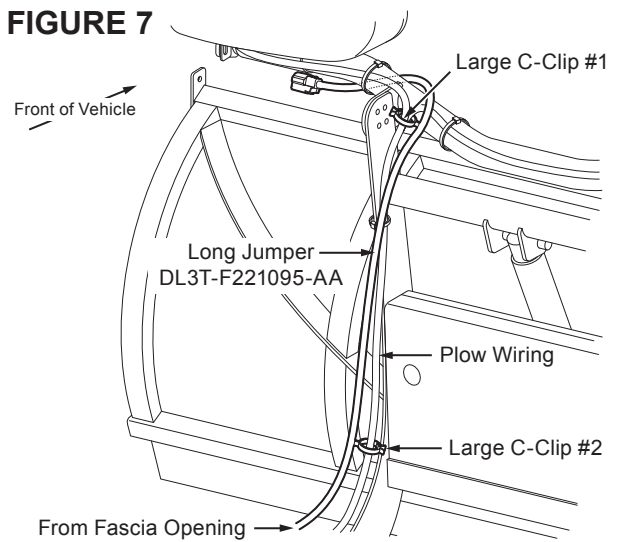

FIGURE 8
8. Tie strap the new OAT Sensor (AU5T-12A647-AC) to the plow left headlamp wire harness using tie straps (8V5T-14A169-SA). Make sure sensor is secured to harness just below and rearward of the LH headlamp to avoid sun load and snow/ice/debris damage. **See Figure 8.**
Plug long jumper (DL3T-F221095-AA) plow side into the OAT Sensor (AU5T-12A647-AC) tie strapped to the plow. **See Figure 8.**